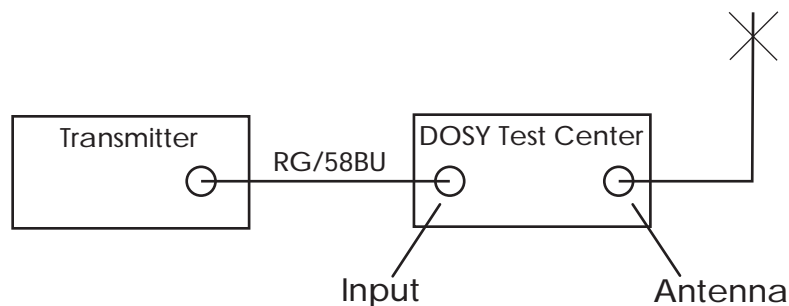

Figure 1
The TC-3001 Test Center will indicate the power output (in watts) of your equipment at the point in the transmission line where you have installed the test center. To measure any power from 1 to 1000 watts, just set the RF Power Range Switch (#6 FIG. 1) to the appropriate range: 10, 100, 1000 watts. Key the transmitter and read the wattage on the corresponding scale of the RF Power Meter (#2 Fig. 1).
1. Operate SWR Set Control Switch (#4 Fig. 1) to Set Position.
2. Turn SWR RF Level Control (#5 Fig. 1) to Min.
3. Key transmitter and turn SWR RF Level Control clockwise (#5 Fig. 1) to give a full scale meter reading to Set Line on the SWR Meter (#1 Fig. 1).
1. Operate MOD SET Control Switch (#8 Fig. 1) to SET position.
2. Turn MOD RF Level Control (#7 Fig. 1) to Min.
3. Key transmitter and turn MOD RF Level Control (#7 Fig. 1) clockwise to give a full scale meter reading to Set on the Modulation Meter (#3 Fig. 1)
4. Operate MOD SET Control Switch (#8 Fig. 1) to MOD position. Key transmitter and talk or steadily whistle into the microphone. Read Modulation percentage directly on the modulation meter (#3 Fig. 1)